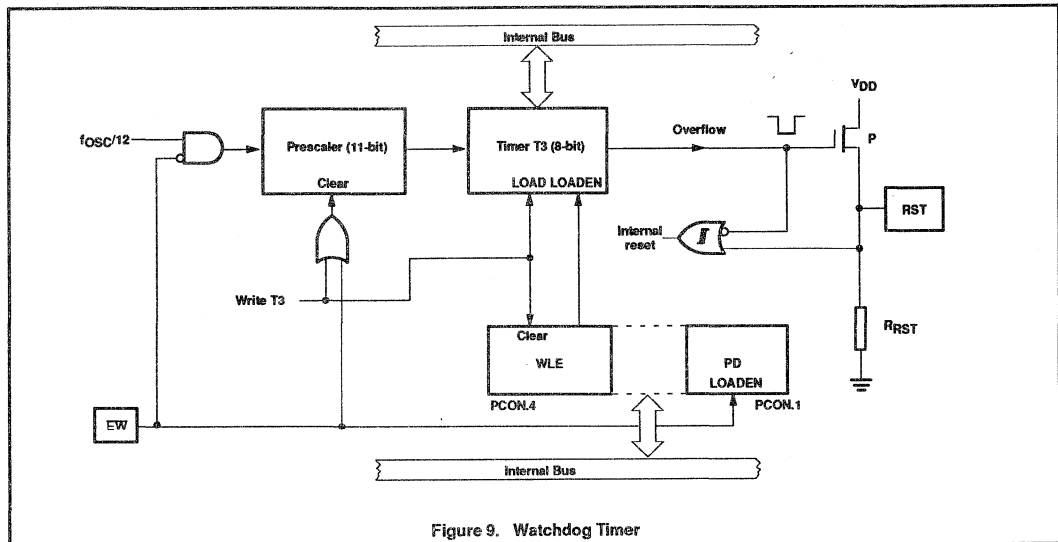

Figure 9. Watchdog Timer
**Watchdog Circuit Description:** The watchdog timer (Timer T3) consists of an 8-bit timer with an 11-bit prescaler as shown in Figure 9. The prescaler is fed with a signal whose frequency is 1/12 the oscillator frequency (1MHz with a 12MHz oscillator). The 8-bit timer is incremented every "t" seconds, where: